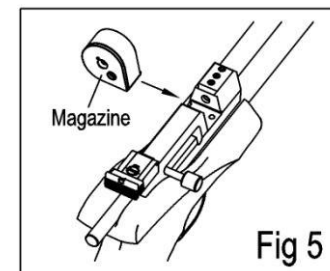

Fig 5
- With the bolt open, insert a magazine, which holds for 9 pellets for cal. 4.5 and 7 shots for cal. 5.5, from left to right to the breech (See Fig 5). The magazine tongue shall match breech groove.